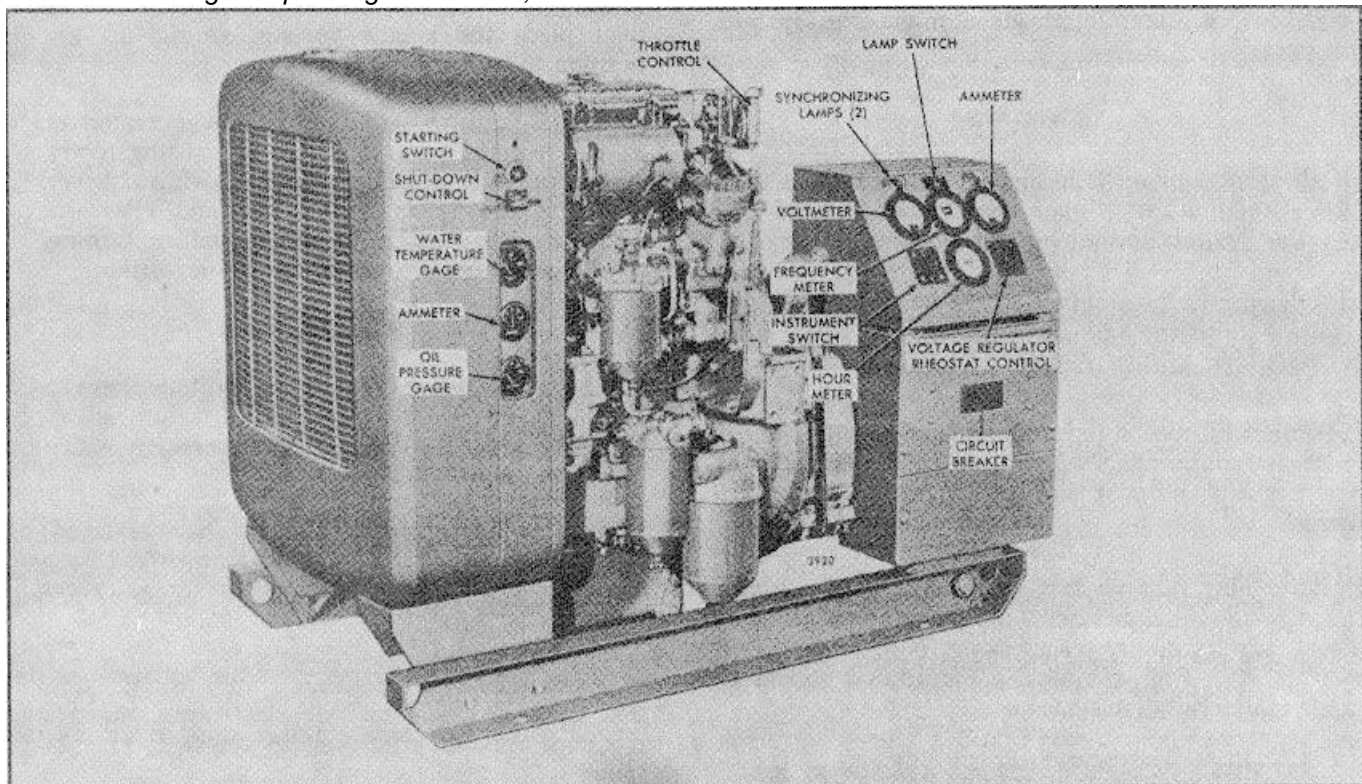

Fig. 1 . Location of Controls on Power Generator Set
These instructions cover the fundamental procedures for operating an alternating current power generator set (Fig. 1). The operator should read these instructions before attempting to operate the generator set. Never operate a generator set for a short (15 minute) interval - the engine will not reach normal operating temperature in so short a period. Avoid operating the set for extended periods at no-load. Ideally, operate the set for one hour with at least 40% load (generator rating). When a test must be made with a line load of less than 40% of the generator rating, add a supplementary load. Connect the supplementary load to the load terminals of the control cabinet circuit breaker so that the generator can be "loaded" whenever the breaker is closed. Make certain that the supplementary load is such that it can be controlled to permit a reduction in the load should a normal load increase occur while the set is operating. Locate the supplementary load outside the engine room, if desirable, to provide adequate cooling.
4. Refer to Fig. 1 and place the circuit breaker in the off position.
If the generator set is located in a closed space, start the ventilating fan or open the doors and windows, as weather permits, to supply ample air to the engine. The engine may require the use of a cold weather starting aid if the ambient temperature is below 40°F(4° C). Refer to *Cold Weather Starting Aids*. Press the throttle button and turn the throttle control(Fig. 1) counterclockwise to a position midway between run and stop. Then press the starting switch firmly. If the engine fails to start within 30 seconds, release the starting switch and allow the starting motor to cool a few minutes before trying again. If the engine fails to start after four attempts, an inspection should be made to determine the cause.
2. Check the voltmeter (Fig. 1); the voltage must be the same as the line voltage. Adjust the voltage regulator rheostat control if the voltages are not the same.